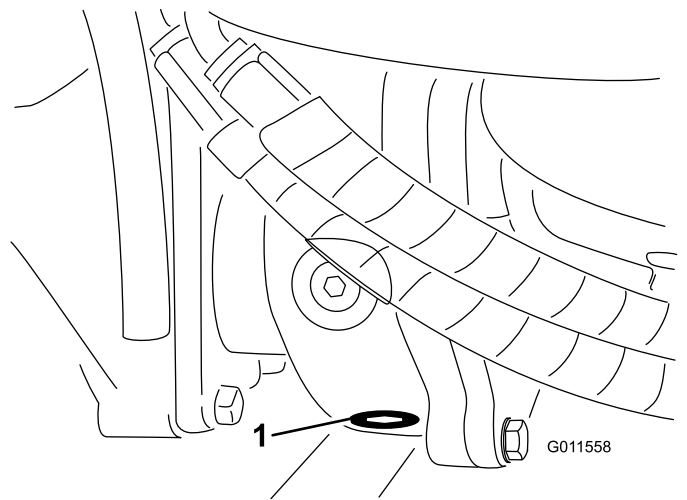

Figure 91
5. Clean the area around the drain plug on the bottom of the gear box (Figure 91).